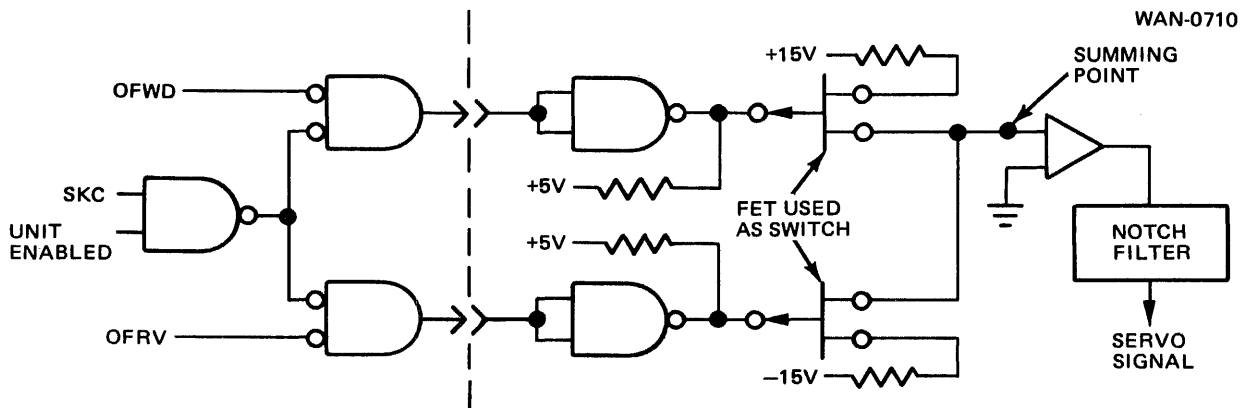

Figure 4-26. Servo Offset Signals
4.5.7.7 Track Offset, Forward, and Reverse. The 100/200 TPI Disc Drive has the ability to retrieve marginal data. Two lines from the Controller allow the positioner to be offset by a predetermined amount (approximately 1/2 mil) in the selected direction in either FWD or REV. A simplified logic diagram of the offset circuit is shown in Figure 4-26. These lines can be used to recover marginal data during a Read operation and must not be used when writing. Offsetting is accomplished by injecting a small amount of current into the main servo summing junction as shown on the SVA schematic (Appendix C).